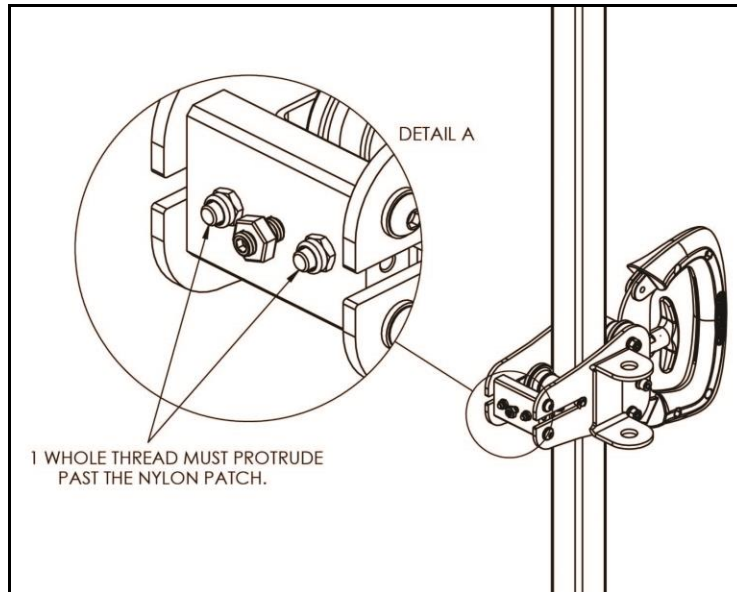

Fig. 11
11. Now back up the nylon lock nuts that are threaded onto each of the studs (Fig. 11) using a 8mm socket until at least one full thread of each stud is protruding through the nylon ring of each lock nut (Fig11 – Det. A). Note that the roller comes into contact with the adjustment post.